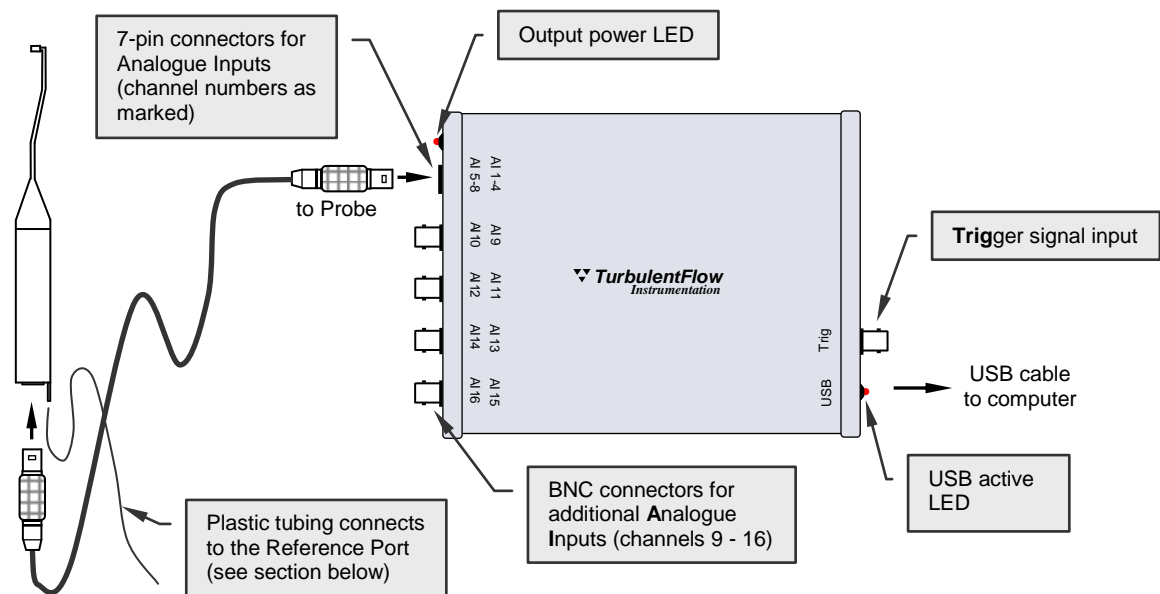
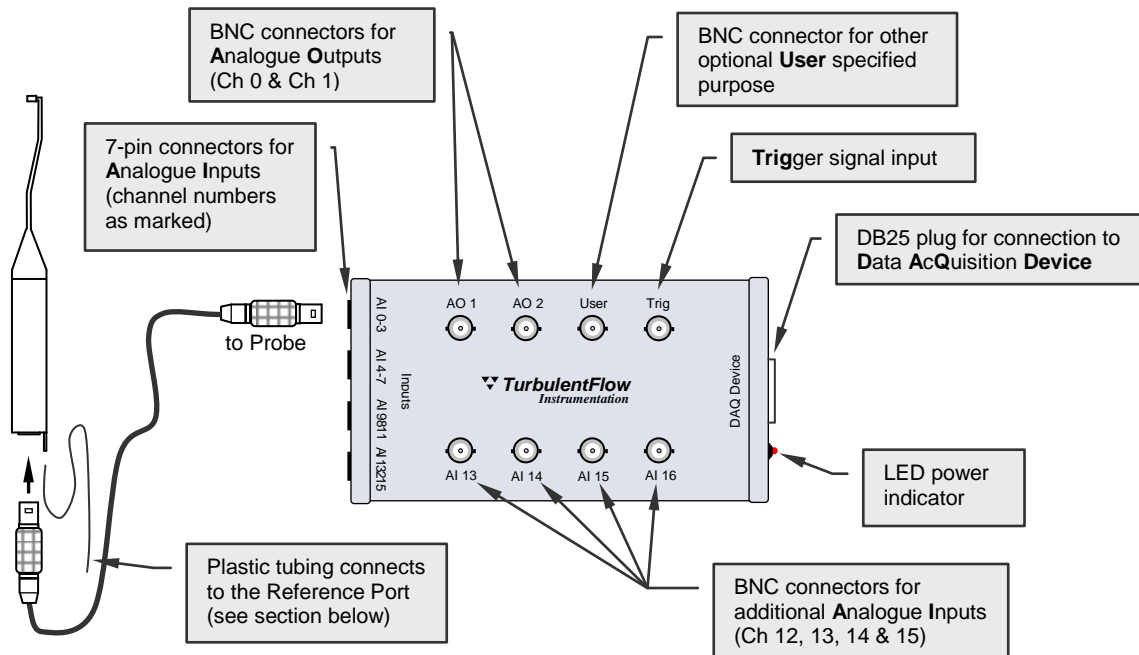

Figure 3: Schematic of an example Data-acquisition Interface Unit with integrated data acquisition.
Figure 4: Schematic of an example Interface Unit with external data acquisition.
These two types of systems are described in the following sections. Depending on which interface unit you have, refer to Figure 3 or Figure 4 for a diagram of the required connections. To connect up the system:
This type of interface unit contains an internal data acquisition system and is known as a **Data-acquisition Interface Unit (DIU)**. Analogue signals from the Cobra Probe or other sensors are converted to digital signals before being sent to a computer via a USB cable. Power is supplied to the **DIU** and Cobra Probe via the USB cable (for most units), so it is not necessary to use an external power supply. See Figure 3 for an example of this type of interface unit and the typical connections required for operation.
This type of Interface Unit (IU) must connect to an external data acquisition system or **DAQ Device**, such as an A/D card in a computer or some other stand-alone data acquisition system. Power is supplied via the cable from the **DAQ Device** or external power supply and the IU passes the analogue data signals from Cobra Probes and other sensors to the **DAQ Device**, where they are converted to a digital format. See Figure 4 for an example of this type of interface unit and the typical connections required for operation.
The interface unit configuration will depend on your specified requirements, but interface units have common features (refer to Figure 4 and Figure 3):